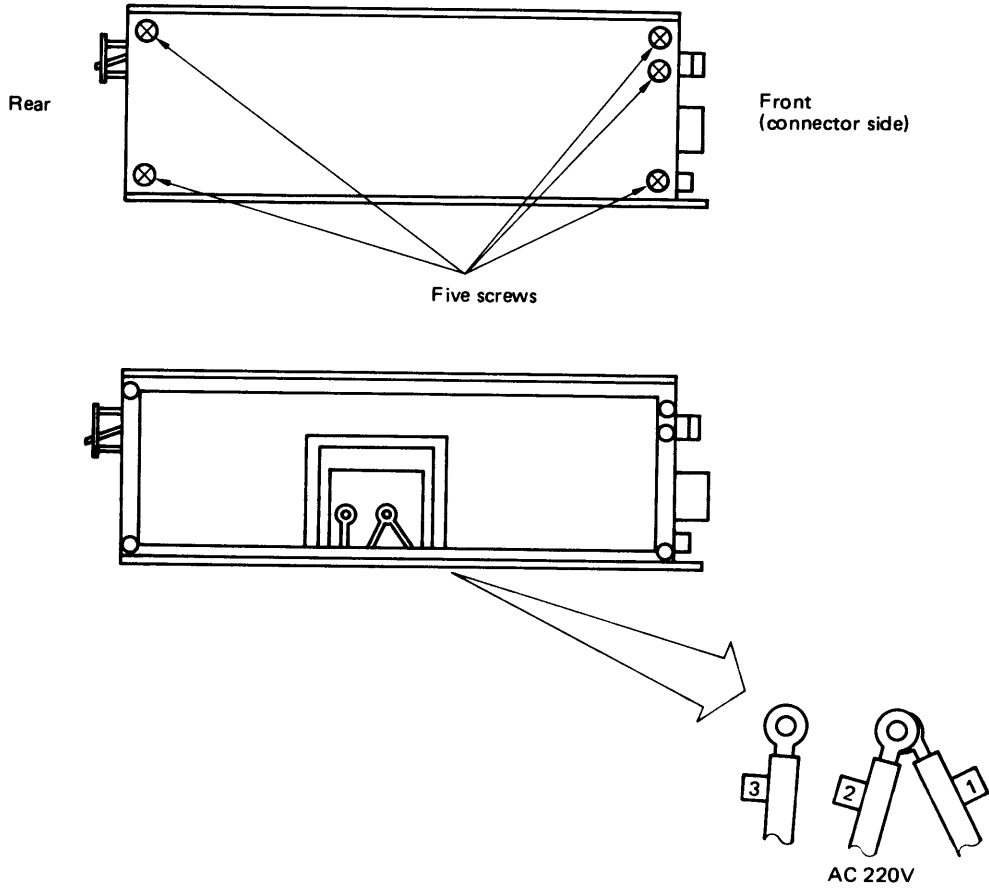

Figure 3-5-2 AC Input Select
- (1) Remove the side cover by loosening five screws as shown in Figure 3-5-2. After removal of the cover, the three tap-wires are visible.
- (2) The warning label is stuck the inside of cover. If necessary, the following tap terminals must be connected according to site AC input after removing the isolation cover and tie-wrap.